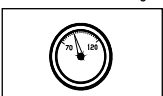

Fig.4
5. Regulate the air pressure to obtain 70 PSI (4.8 bar) at the tool. Check the operation of the contact safety trip mechanism following the instructions in this manual.(See Fig. 4)